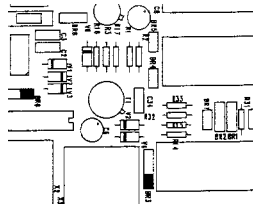

Figure 6: The PTT–relay switches to ground
2. X3 pin 3 switched to ground by relay. In this case the PTC may also be supplied with power through X3 pin 5. Figure 6 shows the setting of the jumpers.